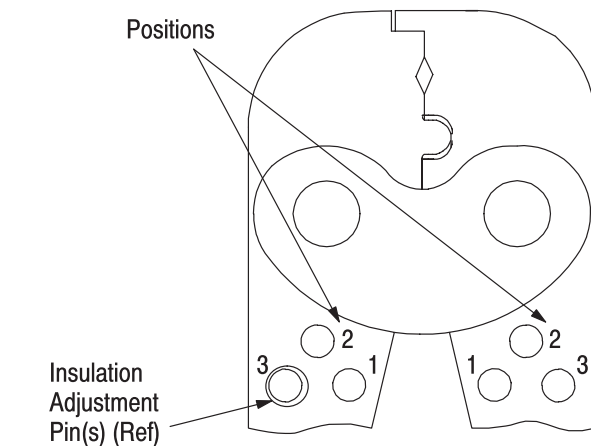

Figure 6
NOTE Always place both adjustment pins in the same position. See Figure 6.
1. Insert insulation adjustment pins in Position 3. See Figure 6.